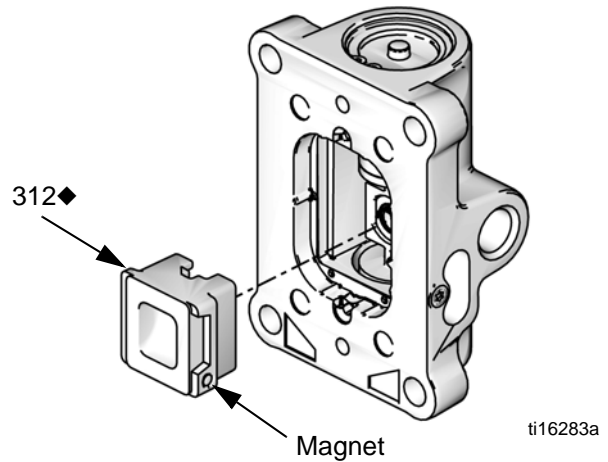

FIG. 11. Air Valve Cup Installation
7. Install the spring (311♦). Lubricate and install the air valve cup (312♦), see FIG. 11. Align the small round magnet with the air inlet.